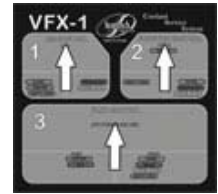

Figure 4
- 10) Return all control panel valves to neutral position. (fig 4)